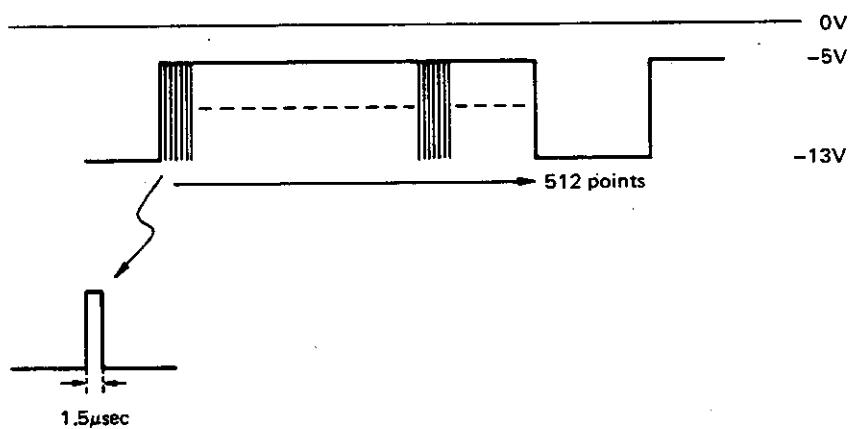

Fig. 6-22 Waveform at TP4
- (3) Check that the signal waveform output from peak detector as shown in Fig. 6-22 is observed at TP5.